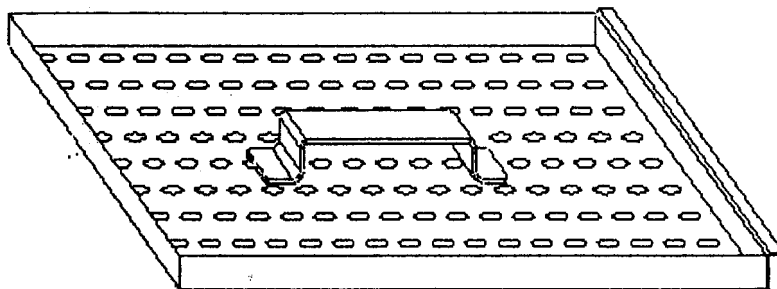

Figure 3: Strainer pan.
2. Open the door, remove the overflow tube (see Figure 2) and strainer pans (see Figure 3) and close the door.